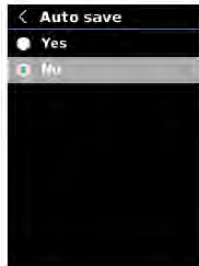

Fig. 21
2. Press the  and  buttons to Enable (Yes) or Disable (No) the auto save function (Fig. 21).